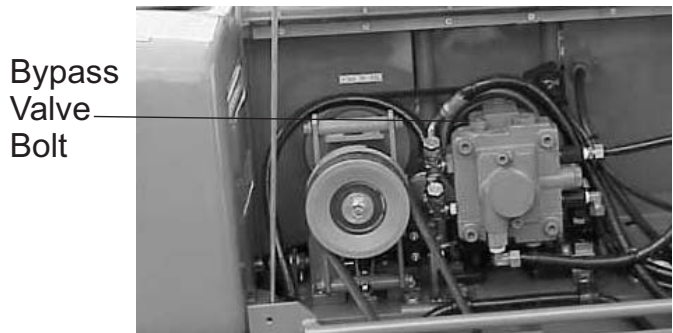

Figure 20. Location of Bypass Valve Bolt
5. If you need to move the roller by pushing it manually once engine is stopped, loosen bolt of bypass valve on oil pump by one rotation counterclockwise. This will cause the hydraulic brake to disengage and allow the roller to be moved more easily (Figure 20).